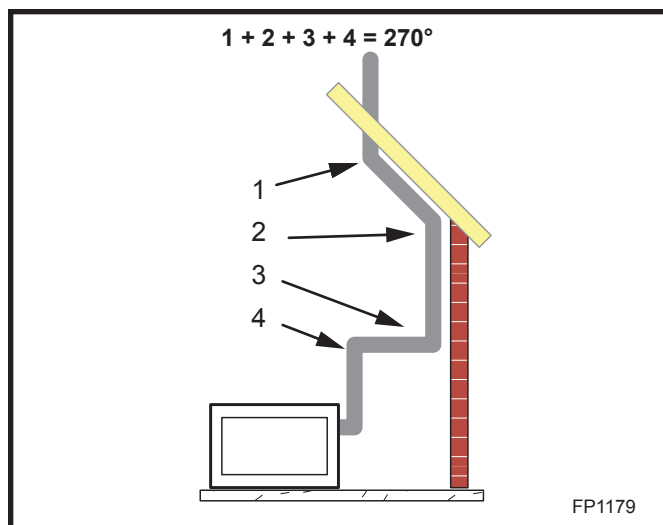

Fig. 26 Maximum elbow usage.
- Two sets of 45° elbow offsets may be used within the vertical sections. From 0 to a maximum of 8' (2.5 m) of vent pipe can be used between elbows. (Fig. 26)
- The maximum angular variation allowed in the system is 270°. (Fig. 26)